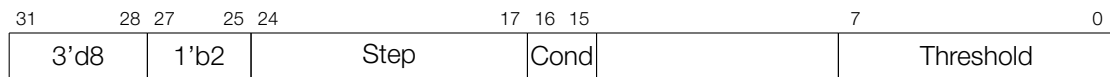

Figure 148: Instruction Type – JUMP
**Operand**    **Description** - see Figure 148